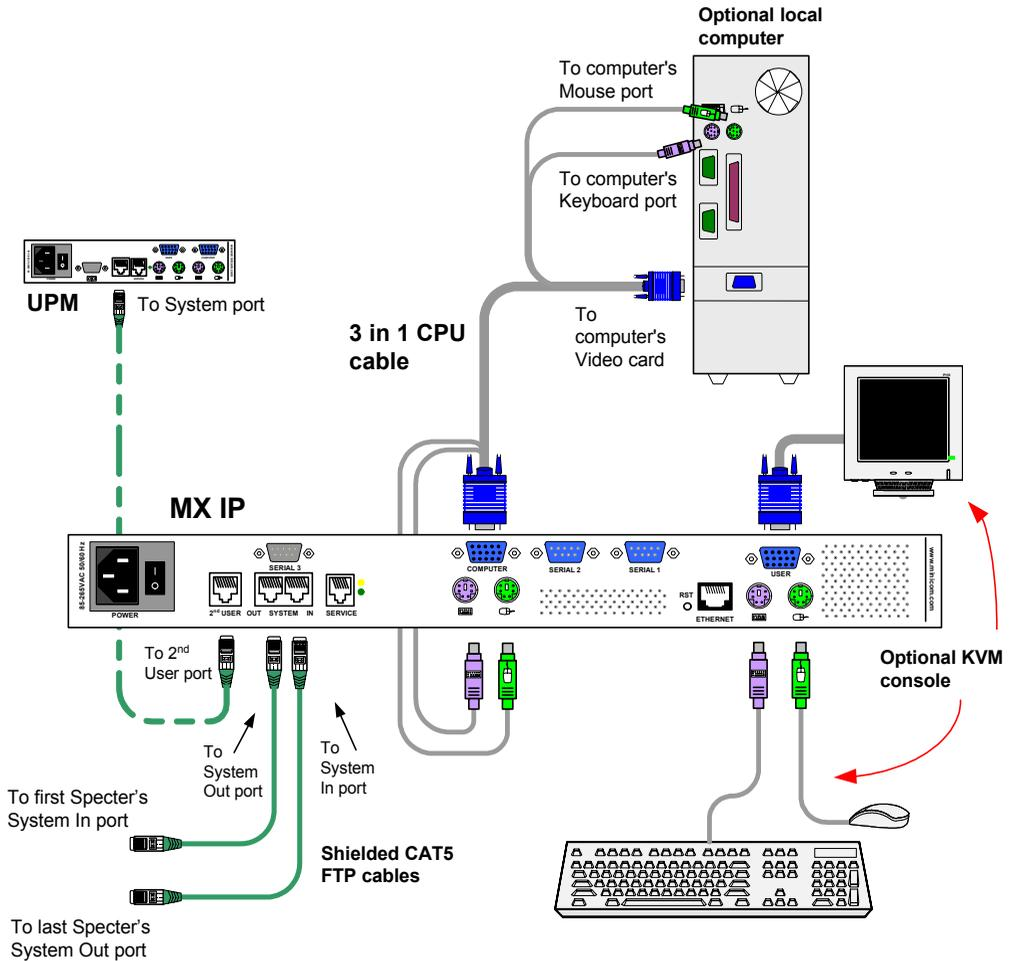

Figure 11 MX IP connections
4. You can connect a local KVM console to the User ports of the MX IP and work locally on the Phantom system. Figure 11 illustrates the connections.